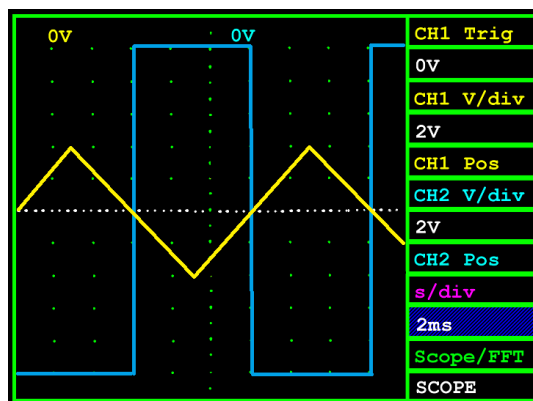

Figure 15: Comparator output converting a triangle wave to a square wave.
6. Select the triangle waveform on the function generator. Use the level control on the function generator to move the triangle wave up and down slightly around the center line. What happens to the output waveform? Can you control the duty cycle this way? **Figure 15** shows how the output should appear.